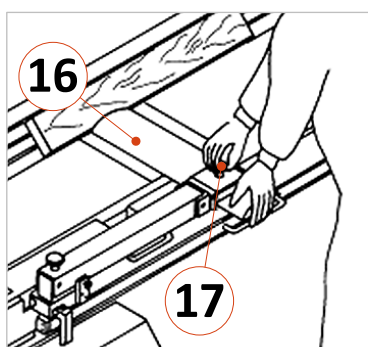

Figure 34: Inclined surface planing
- Loosen the clamping lever (13) on the workpiece fence and set the desired angle using the swivel lever (14) and angle scale (28). Then push the workpiece with the right hand to the inclined fence.
- Position workpiece and bridge guard according to ⇨ Figure 34.
- In this position, fix the guard (16) by using clamping wheel (17).